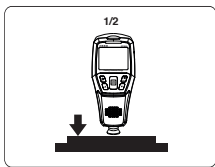

Figure 3
1. When Figure 3 appears on the screen, place a standard coating thickness film with known thickness (e.g.: 500 $\mu\text{m}$ ) on top of an uncoated substrate.